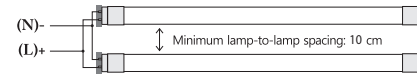
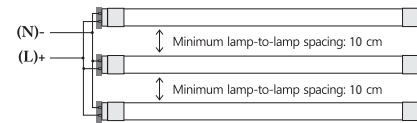
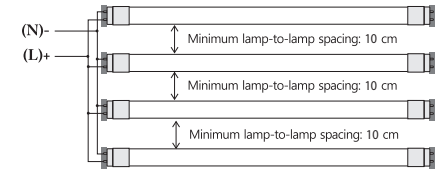

Figure 11
Figure 12
Figure 13
For light fixture with maximum 4 lamps , simply connect all the black leads (ungrounded leads ) from each Lampholders to the line side (L) of the supply circuit and connect all white leads (grounded leads ) from each lampholders to the neutral side (N) of the supply circuit . See Figure 11 and Figure 12 and Figure 13 for 2 lamps and 3 lamps and 4 lamps connection in details , respectively.